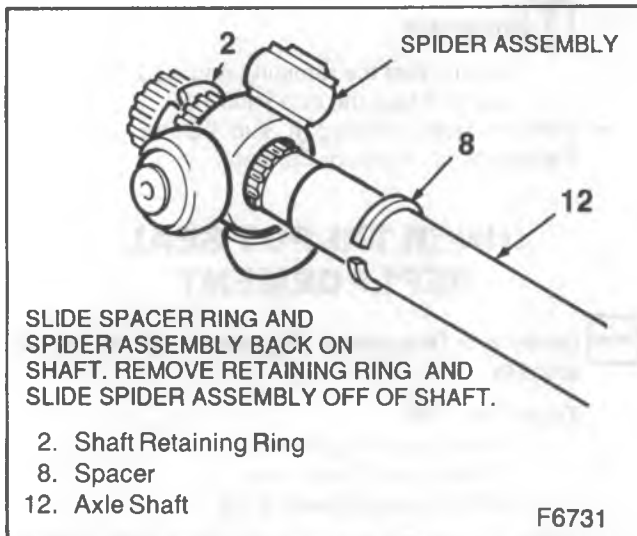

Figure 51—Removing Spider Assembly
- Do not cut through the seal (10) with the chisel and damage the sealing surface of the tri-pot outer housing (1).
2. Small seal-retaining clamp (11) from the axle shaft (12) with a side cutter and discard.
- Separate seal (10) from the tri-pot housing (1) at the large diameter and slide the seal away from the joint along the axle shaft (12).
3. Tri-pot housing (1) from the spider (3) and shaft (12).
- Spread the spacer ring (8) with J 8059 and slide the spacer ring and the tri-pot spider (3) back on the axle shaft (12) as shown (figure 51).
4. Shaft retaining ring (2) from the groove on the axle shaft (12) and slide the spider assembly off the shaft.